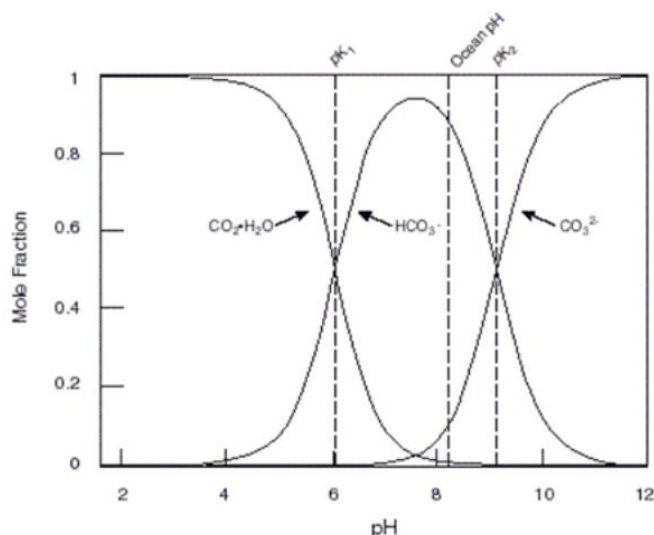

Fig. 27: Carbon Dioxide – Carbonic Acid Equilibrium.
- **Important:** Please monitor the pH of the solution over the time course of the calibration to ensure that it remains at 4 or lower. Add more HCl into the solution if pH increases above 4. At pH above 4 dCO_2 will be converted back into bicarbonate and will no longer be measured by the probe (Fig. 27).